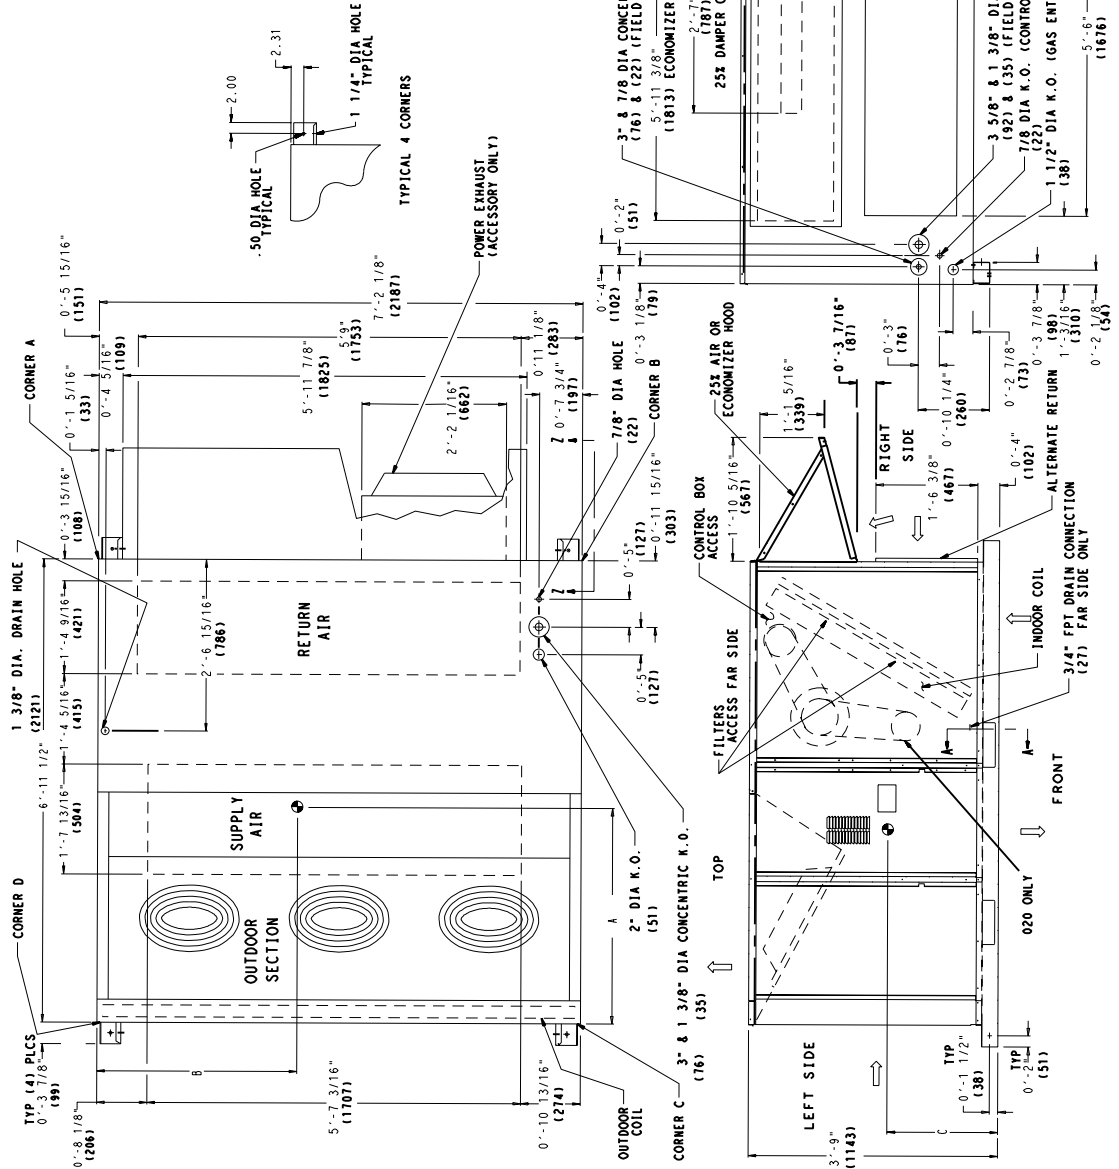

Fig. 4 — Base Unit Dimensions; 48TJ016,020
POSITIONING — Maintain clearance, per Fig. 4 and 5, around and above unit to provide minimum distance from combustible materials, proper airflow, and service access.
2. Refer to Fig. 4 and 5 for unit operating weights.
5. Weights do not include optional economizer. See Fig. 4 and 5 for economizer weight.